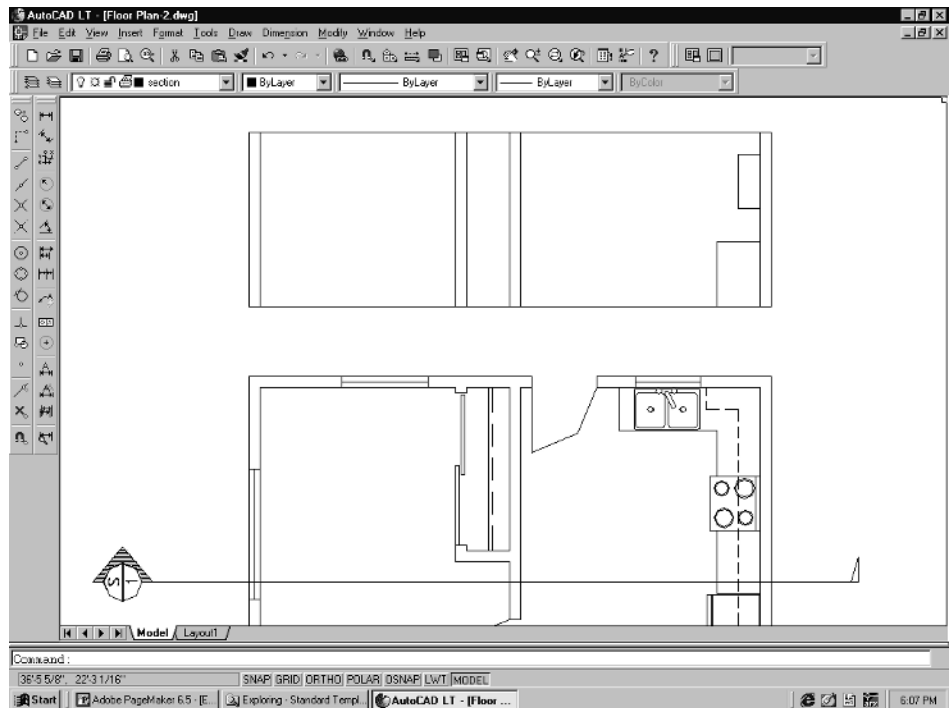

Figure 3-30
7. Use the Trim and Fillet commands to clean up the counter and cabinet lines. Your drawing should resemble Figure 3-30.